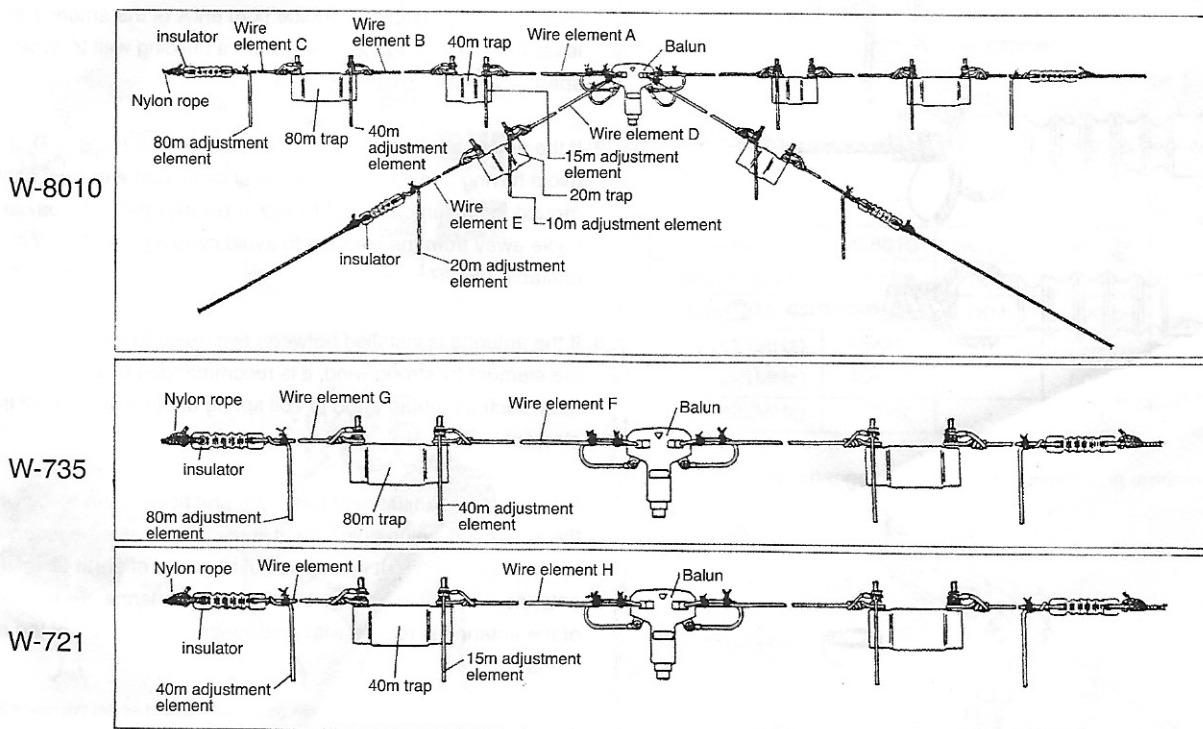

FIG.1
1. Turn wire element approximately 20cm(7.9")through balun and bind two parts by binding wire as shown per Fig.1. In case of the W-8010, two wire elements for one side are bind together.